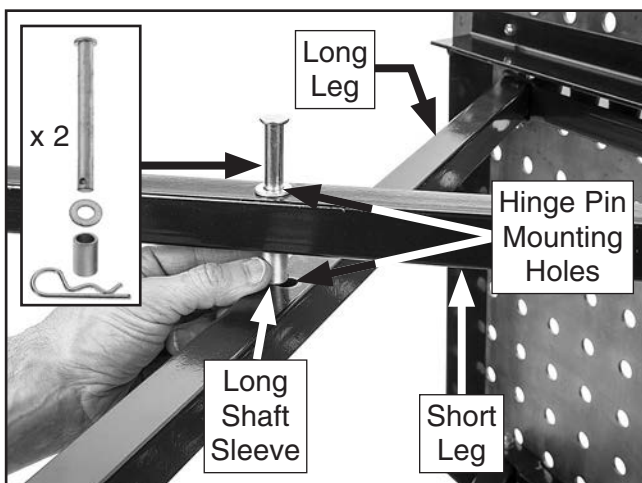

Figure 4. Connecting legs with lower hinge pin and long shaft sleeve.
- Place long legs inside short legs to align hinge pin mounting holes (see **Figure 4**).
- Connect legs with 10 x 94mm lower hinge pin, 10mm flat washer, long shaft sleeve, and 3 x 61mm hairpin cotter pin, as shown in **Figure 4**. Repeat for second mounting hole.